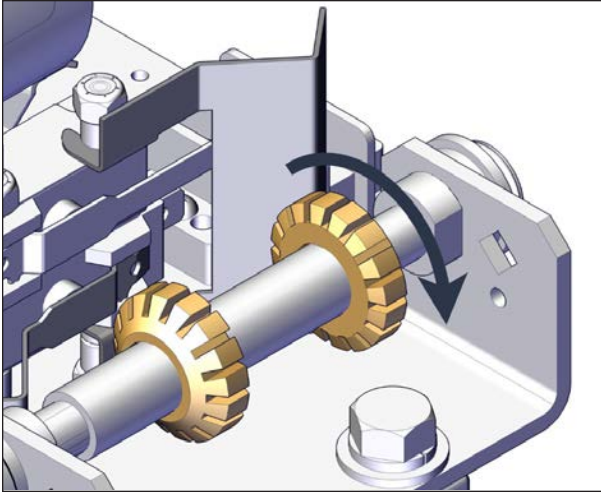

FIGURE 81: CAM WHEELS
4. To reduce the lift up limit, turn by hand the up-cam wheel counterclockwise looking from the cam plate mounting screw side as shown in Figure 81. It has around 4° between each cam wheel tooth and adding or removing a tooth resolves in adding or removing approximately $5/32$ in. (4 mm) on the cover lifting stroke.